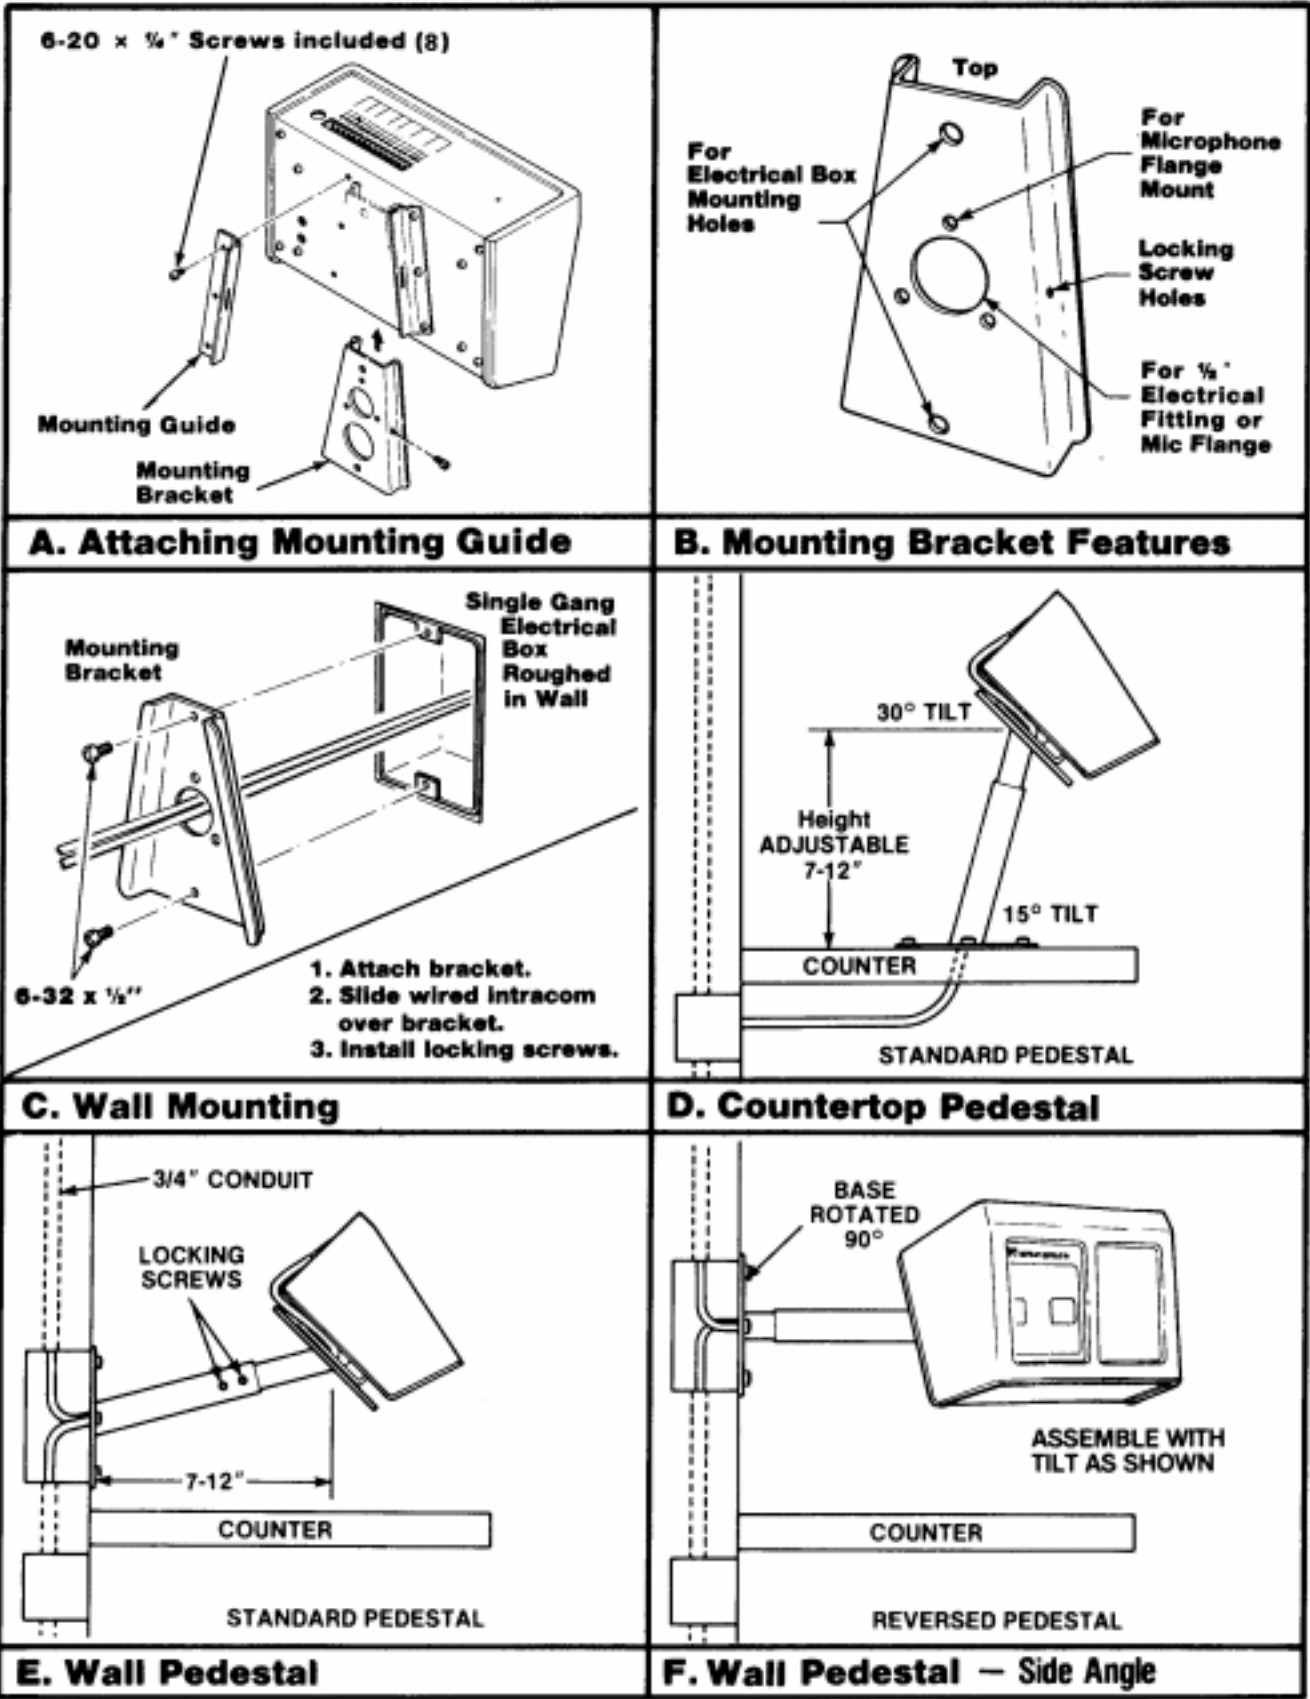

Figure 2. Intercom Mounting Methods
The D-15 has four rubber feet for countertop placement, but we suggest permanent surface attachment to prevent movement. Use the enclosed mounting guides and “A” bracket to mount the D-15 to a wall, microphone stand flange mount, junction box or optional pedestal mount (78-8028-9095-0) as shown in figure 2. Use of the pedestal mount positions the unit closer to the operator for better voice clarity and lower listen volume. Install the “A” bracket as follows:
2. Attach the two mounting guides to the D-15 bottom using six of the 6-20 x 1/4-inch screws per figure 2-A.
5. If a single presence alert tone is desired, change the internal switch SW106 to SINGLE position (see figure 2). The unit is set at the factory for repeat tones.
6. Activate the vehicle detection system. Confirm that (1) the unit comes out of standby into the listen mode (2) the yellow vehicle light stays lit until the car leaves. (NOTE: VEHICLE LIGHT WILL NOT STAY LIT WHEN USED WITH AN AIRSWITCH OR OTHER PULSE- SYSTEM) (3) The presence alert tone is heard over the internal speaker.